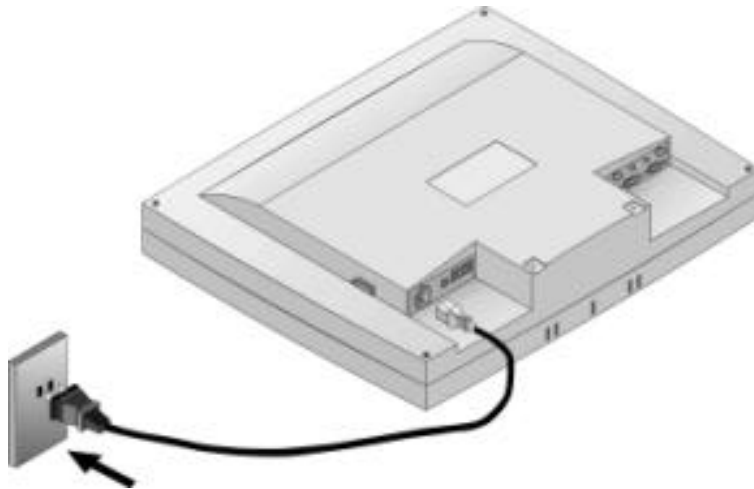

Figure 1-4: Connecting Power to the LCD Monitor
1. Plug the female end of the power cable into the AC power connector. Plug the male end of the power cord into a wall socket. The plug on the power cable will vary according to the electrical standard in your area. Please refer to *Figure 1-4*.